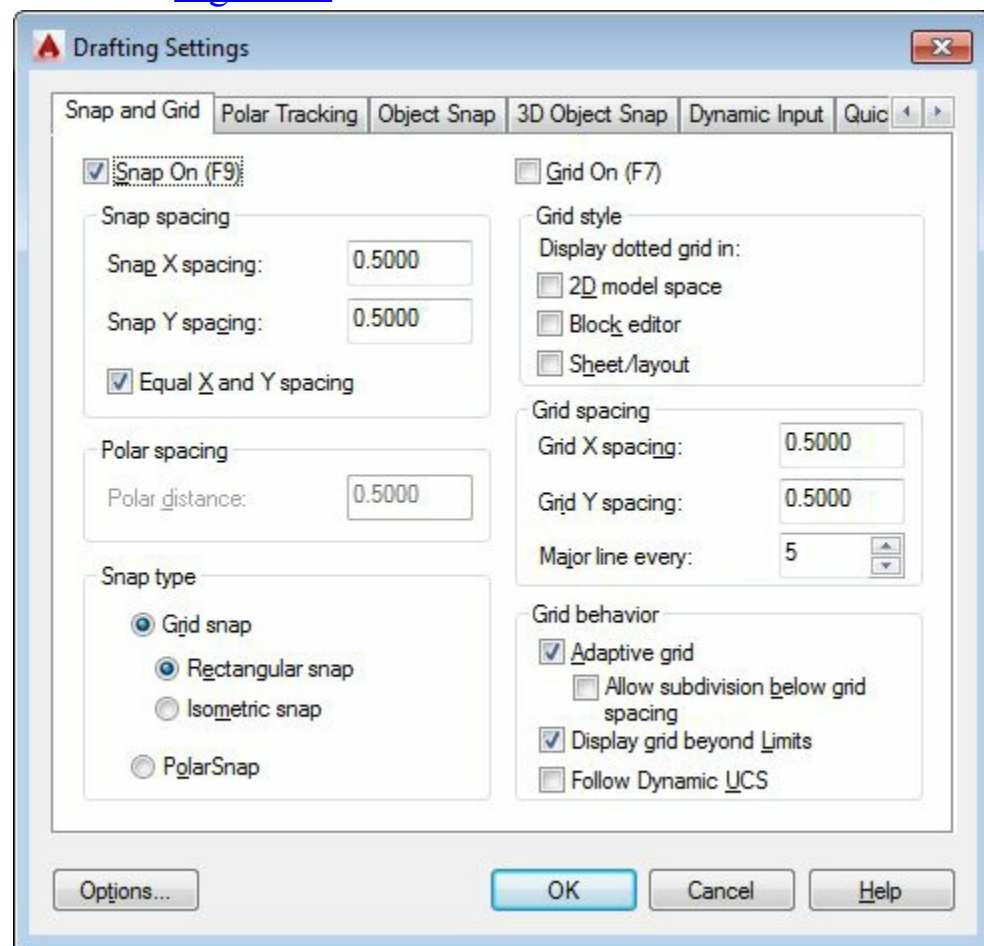

Figure-53. Drafting Settings dialog box
- Select the **Snap Settings** option from the flyout to specify the setting related to the selected type of Snap. The **Drafting Setting** dialog box will be displayed with the **Snap and Grid** tab selected; refer to Figure-53.
You can use the **Drafting Settings** dialog box to set the drawing modes such as grid, snap, Object Snap, Polar, Object snap tracking, and Dynamic Input. All these modes help you draw accurately and also increase the drawing speed. You can right-click on the Snap Mode, Grid Display, Ortho Mode, Polar Tracking, Object Snap, 3D Object Snap, Object Snap Tracking, Dynamic Input, Quick Properties, or Selection Cycling button in the Status Bar to display a shortcut menu. In this shortcut menu, choose Settings to display the Drafting Settings dialog box, as shown in Figure-53. This dialog box has seven tabs: **Snap and Grid**, **Polar Tracking**, **Object Snap**, **3D Object Snap**, **Dynamic Input**, **Quick Properties**, and **Selection Cycling**. On starting AutoCAD Electrical, these tabs have default settings. You can change them according to your requirements. You will learn about them later in the book.